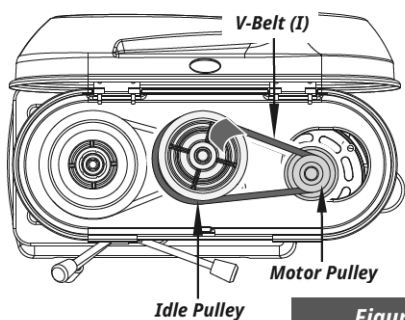

Figure 10
4. Slide the motor forward a little to release the load on the V-belts. (See Figure 10)